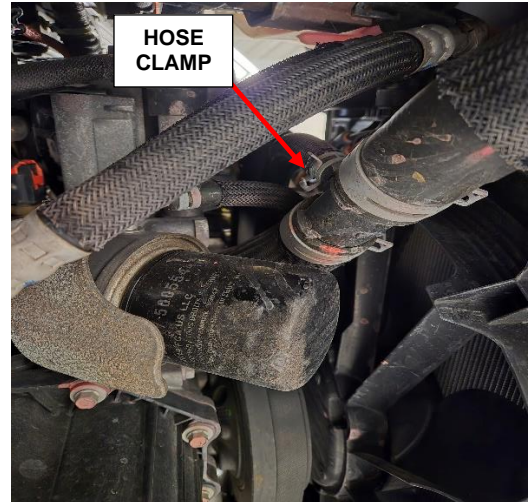

Figure 3 - Hose
8. Remove the hose clamp from the hose (Figure 3).